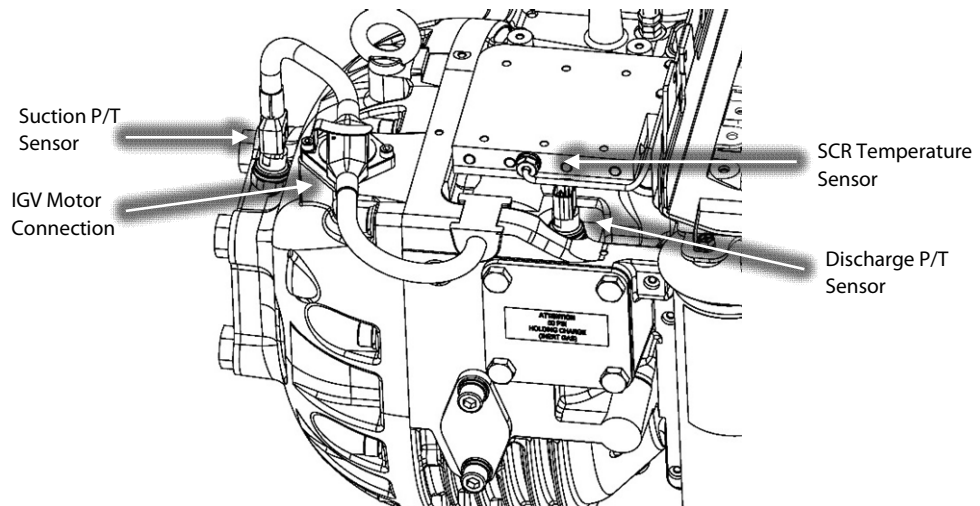

Figure 18 – Cable Harness Compressor Controller Removal
32. Disconnect the harness from the SCR temperature sensor, discharge P/T sensor, IGV motor connection, and the suction P/T sensor. Set the Compressor Controller Cable Harness aside. Refer to Figure 18 (Cable Harness Compressor Controller Removal).